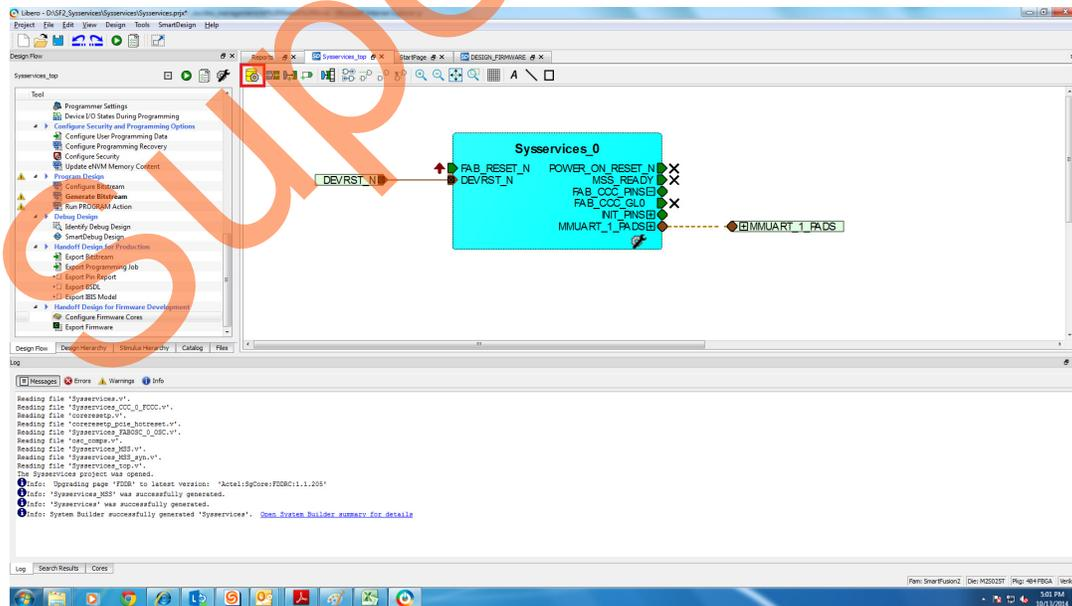

Figure 13 • Generate Component
3. Select **Syservices** tab on the SmartDesign canvas and click **Generate Component** as shown in Figure 13.
After successful generation of all the components, the following message is displayed on the log window, as shown in Figure 13 on page 15.